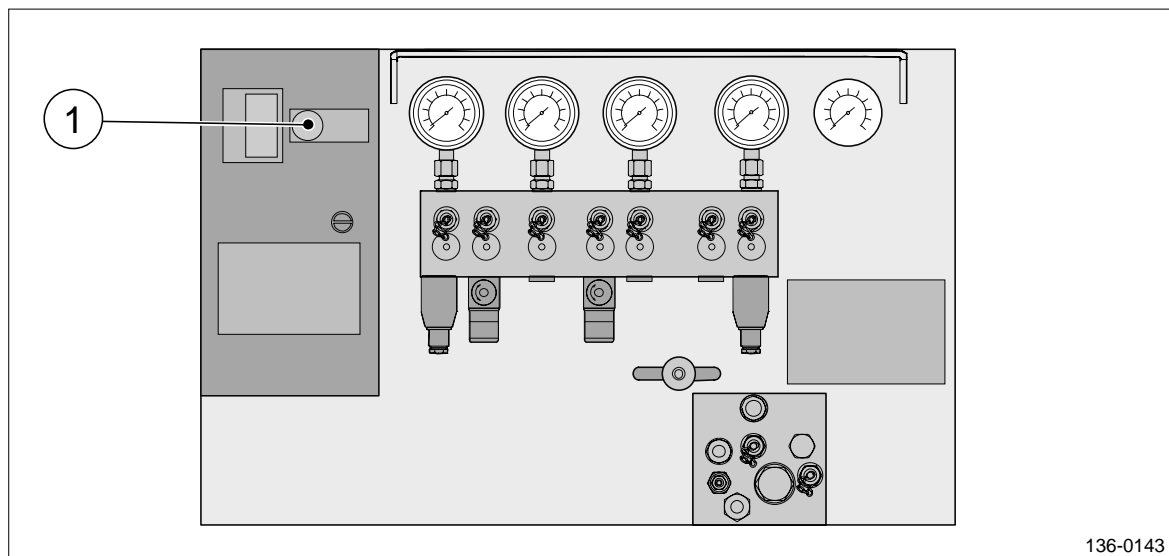

Figure 2 Control panel on the hydraulic power pack.
3. Set the local/remote (pos 1, figure 2) switch on the hydraulic power pack control panel to LOCAL CONTROL.
4. Connect a hose with test connection to test nipple TP8 (pos 1, figure 2). Note that when the hose is attached to the test nipple, oil will flow out and release the pressure. Take proper measures to collect the oil. Dispose the collected oil according to local regulations.